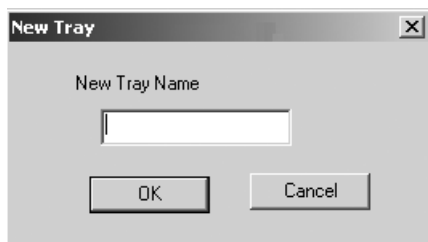

Fig 3-4. The New Tray window.
- 2 Click **New Tray**. The New Tray window appears (fig 3-4).